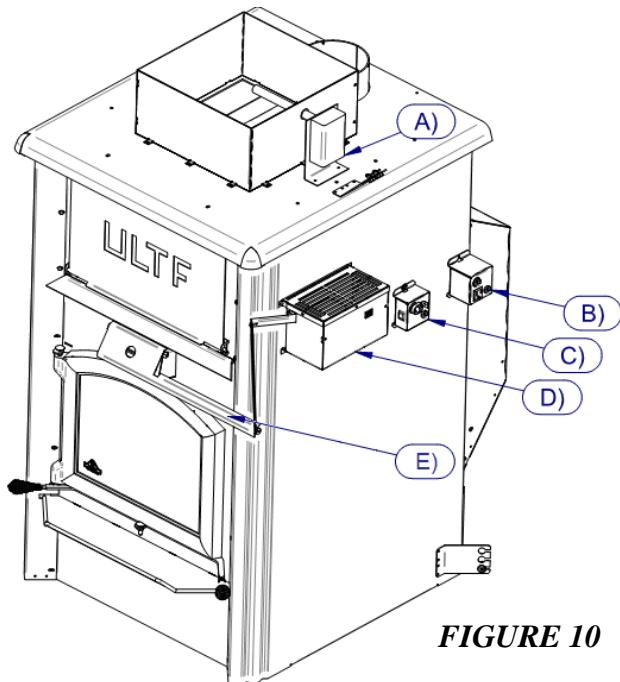

FIGURE 10
-To plug the thermostat, unscrew the junction box (C) on the side of the furnace (See page 19 fig.10). Join the black wire of the thermostat with the black one of the thermostat junction box, then insulate them with a wire nut. Join the white wire of the thermostat junction box to the white one of the thermostat, and then insulate them with a wire nut. Reinstall the junction box on the furnace.